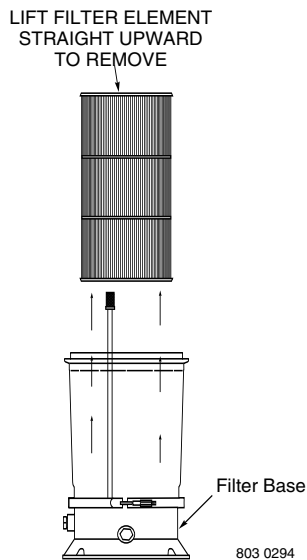

FIGURE 9
11. Lift element out of tank body (See Figure 9). Do not drop filter element. Place element in clean area where it can be hosed down.